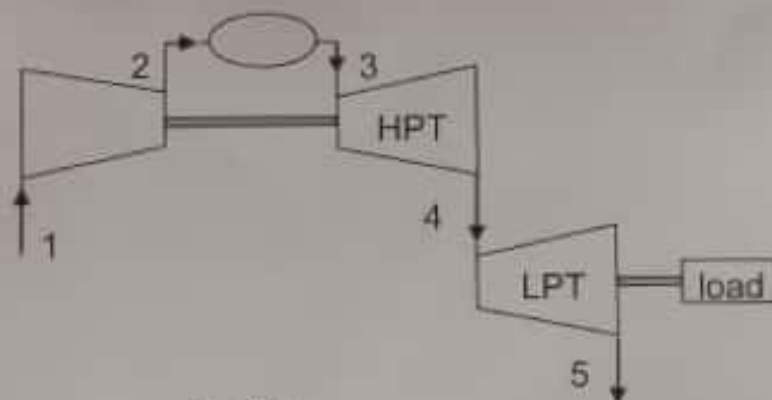

Fig Q2
2. In the open cycle gas turbine plant shown in Fig Q2, the HP turbine drives the compressor and the LP turbine drives the load.